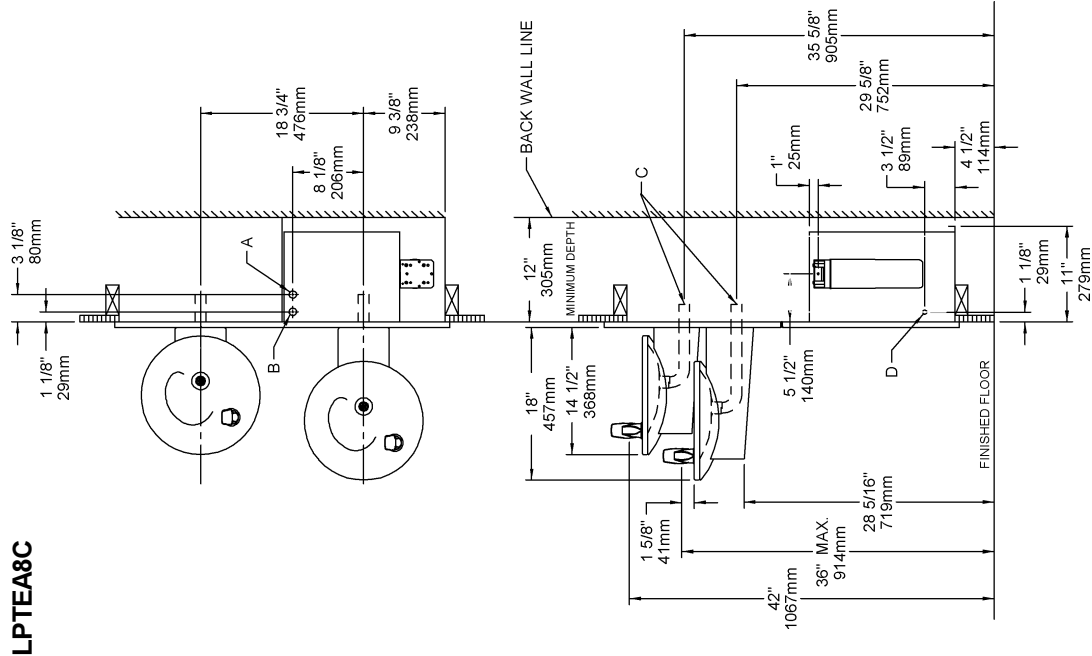

FIG. 6
1. **Install** remote chiller. Remove front panel of chiller. Remove and discard cardboard inner pack from between compressor and side panel. Slide chiller onto the shelf and position it to the left side of shelf. (See Figure 6)
5. **Install** the fountain. Remove access cover plate on underside of fountains and save the screws. Mount the fountain to the upper panel and the wall frame with (4) 5/16" x 1 3/4" (44mm) long bolts and nuts (provided). Install spacers on bottom two bolts. Tighten securely.
7. **ERPA MODELS:** Make connections between remote chiller outlet tube and fountain strainer. Outlet port is marked on the chiller (3/8" O.D. copper tube). Install a 3/8" x 3/8" union (provided) on the marked chiller outlet port. Insert the 3/8" unplated copper water line (provided) into the union and the inlet side of the strainer by pushing it in until it reaches a positive stop, approximately 3/4" (19mm). Connect 1/4" copper tubing coming from fountain to the strainer. Turn on water supply and check for leaks. **DO NOT SOLDER TUBES INSERTED INTO THE STRAINER AS DAMAGE TO THE O-RINGS MAY RESULT.** (See Figure 6).